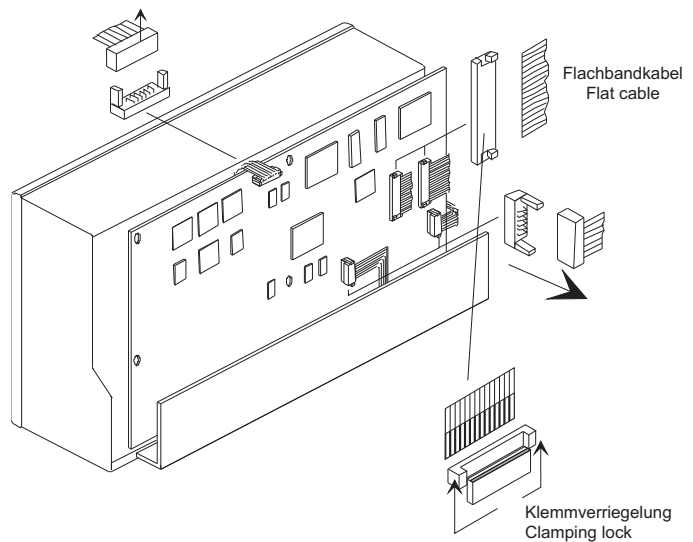

Fig 8-4: Loosen the flat cables
6. Take out flat cables after carefully loosening the locker. Take out all other flat cables as well. (fig. 8-4)